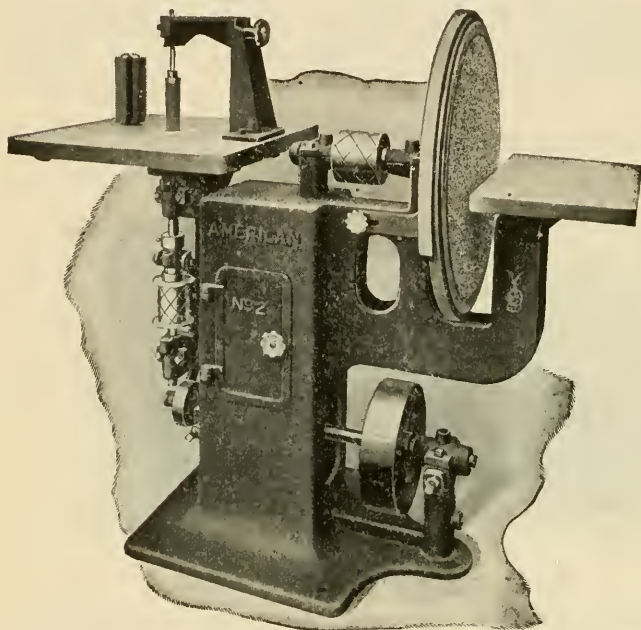

Fig. 52—DISC AND SPINDLE SANDER
54. Speed and Power-- Belt sanders, as described in Fig. 52, are run at a surface speed of about 2200 feet per minute, and require a 2 H. P. motor. The disk and spindle sander, described in article 53, should have a speed of 700 r. p. m. for disk, and 1200 r. p. m. for the spindle. A 2 H. P. motor is required for power.
The disk and spindle sander illustrated in Fig. 52 is one of the safest types in use. The disk, made of glued up strips, is covered with a piece of heavy Brussels, and acts as a pad for the sand paper. The iron band around it holds the paper in place.